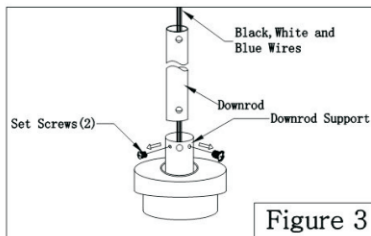

Figure 3
Brace use (Figure 3)
- Loosen the two set screws in the downrod support of the motor assembly. Route the black, white and blue wires through the downrod. (Figure 3)
Securely attach the hanger bracket to the outlet box using the outlet box screws and washers supplied with the outlet box. (Figure 3)